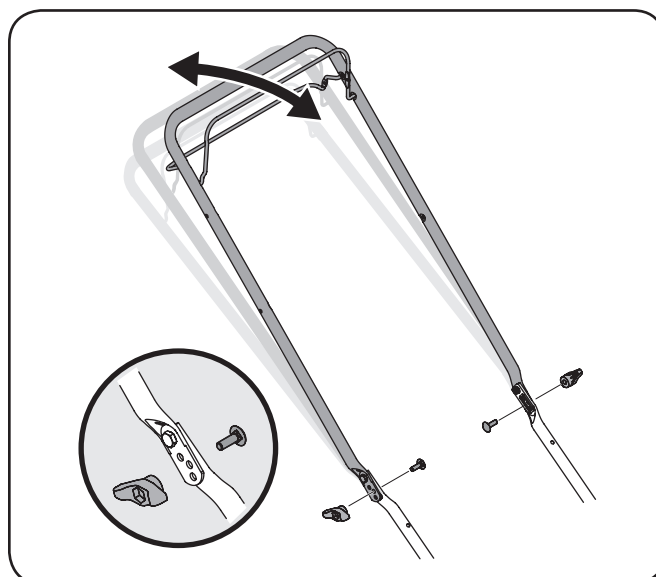

Figure 3-12
1. Remove wing nuts and carriage bolts from handle. See Figure 3-12.
2. Position the handle in one of the three positions that is most comfortable. See Figure 3-12 inset.